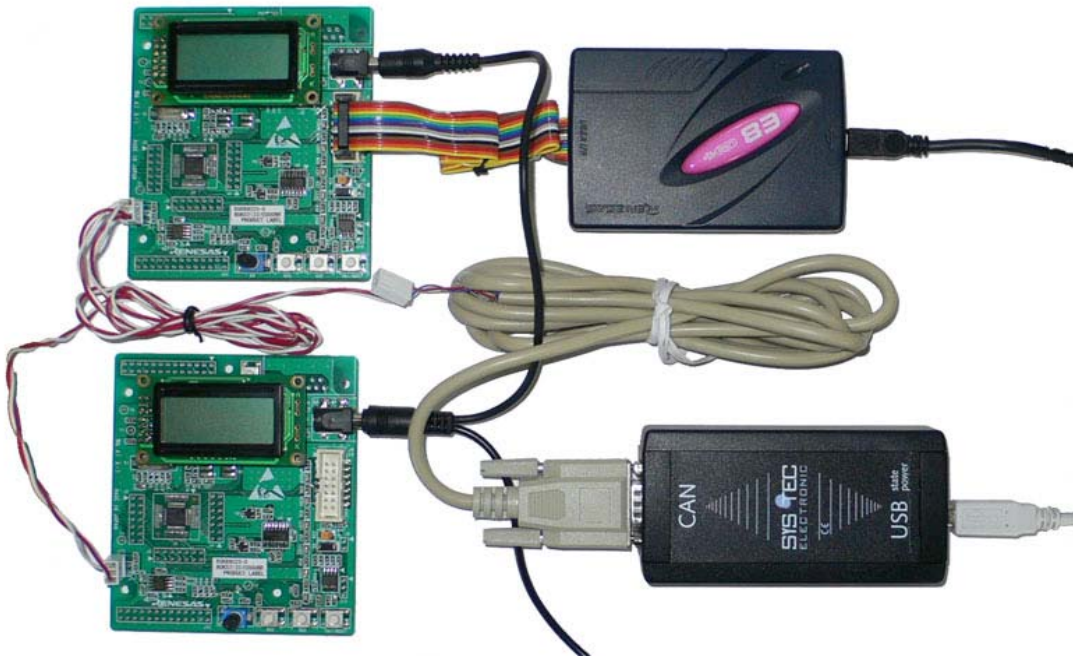

Figure 3: CAN Demo System Connectivity.
To run the demos, only the two RSK boards need to be connected and powered with the included power supply. Figure 3 shows two RSK-R8C23 and the Systec CAN Sniffer connected to the CAN bus; the E8 debugger is connected to one of the RSK boards. Do **not** connect the Sniffer and E8 debugger to your PC at this point, as the PC drivers need to be installed first.
- e.) After software installation is completed, connect the two RSK boards and the CAN Sniffer to the CAN bus as shown in Figure 3.